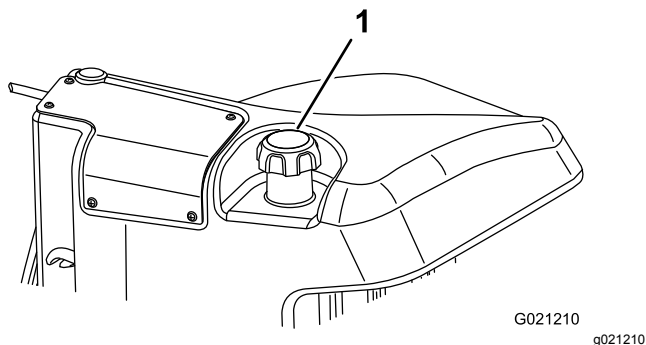

Figure 13
3. Remove the cap from the fuel tank (Figure 13).